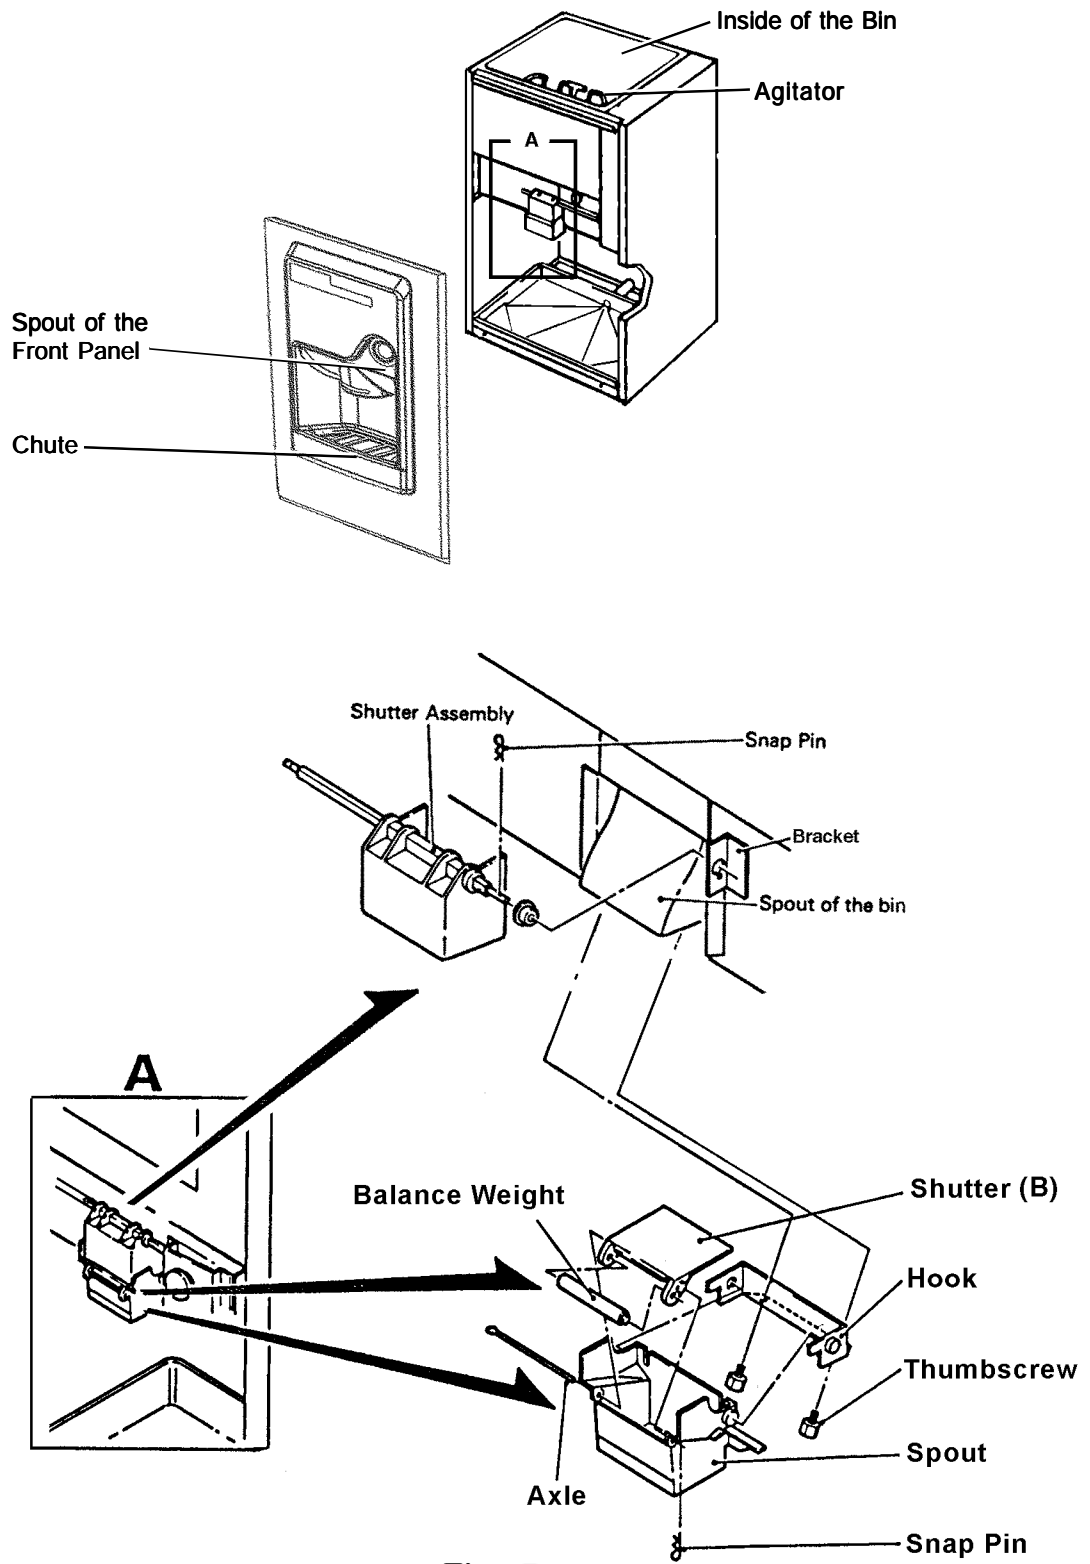

Fig. 5
- 7) Remove the Shutter Assembly and Spout and scrub them using the cleaning solution made in step 6. See Fig. 5.
- c) Remove the Thumbscrews holding the Hook and take it off the Spout. Take off the Snap Pin and the Axle from the Shutter (B). Open out the Shutter (B) and remove the Balance Weight.